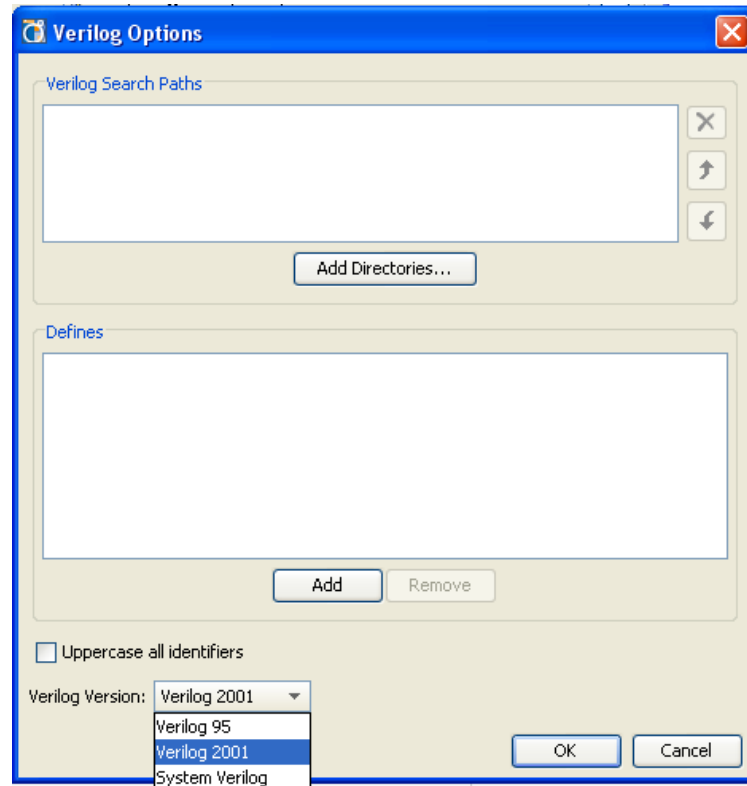

Figure 3-41: Verilog Options
- **Verilog Options** — Specify Verilog search paths, Macro definitions, Uppercase identifiers, and Verilog2001 language standard. These fields are shown in Figure 3-41.